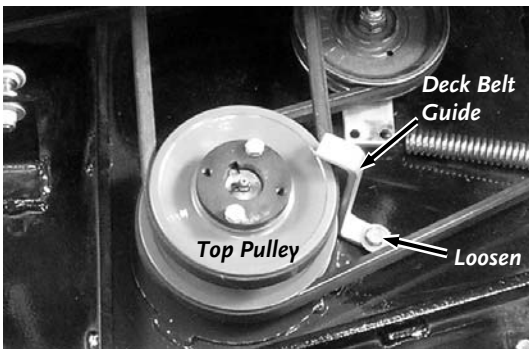

Figure 18
- Using the 1/2" Wrenches, loosen the Deck Belt Guide and swing it out of the way (**Figure 18**). Remove the Engine to Deck Belt from the top Pulley and the Engine and then install the new Belt.
5. Loosen the Deck Belt Guide (**Figure 18 on page 20**) and swing it aside.